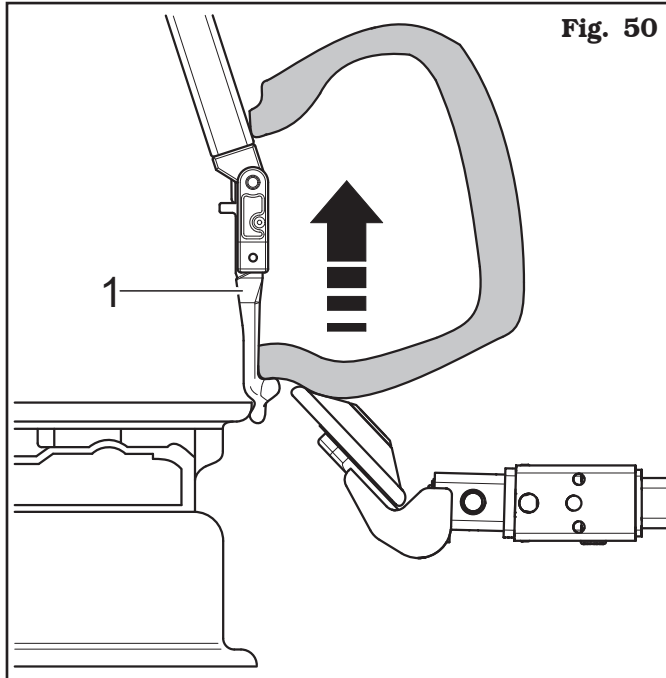

Fig. 50
7. position the toolhead (see **Fig. 50 ref. 1**) just next to the rim edge. Using the lower bead breaker roller, load the lower bead on the tool head in demounting position.